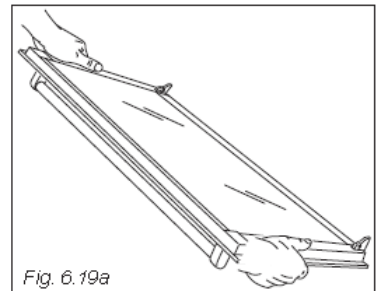

Fig. 6.19a
- Segure a porta com firmeza (fig. 6.19a).